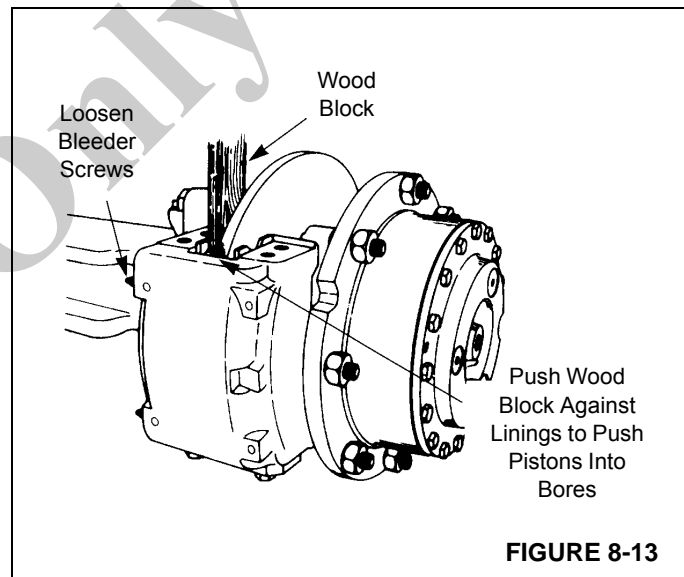

FIGURE 8-13
4. Use a piece of wood against the linings as a pry bar to push the pistons completely into the housing. Tighten the bleeder screws (Figure 8-13).